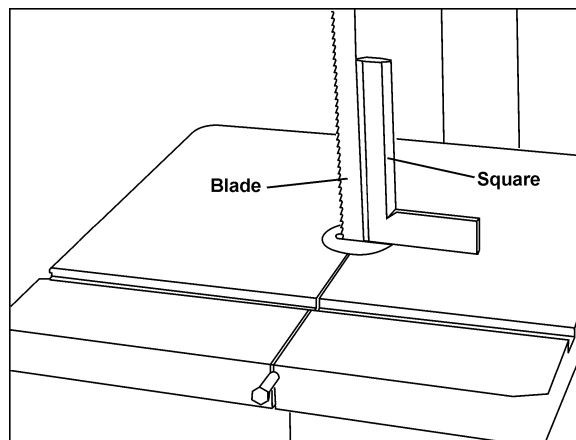
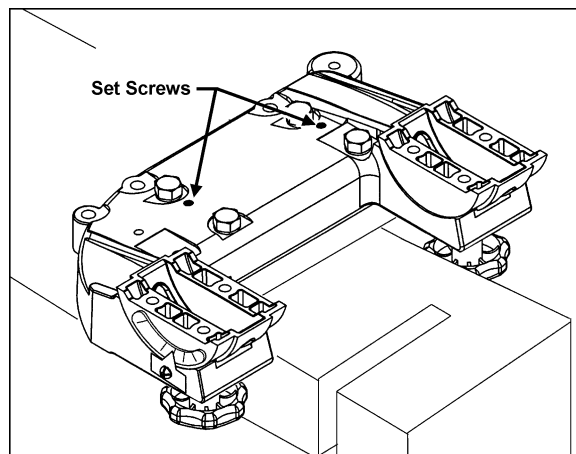

Figure 5
Figure 6
17. Place a square on the table and against the back edge of the blade (Figure 5). If the table is not 90 degrees to the back edge of the blade, use one of the set screws (Figure 6) to adjust the level of the trunnion bracket. Loosen the two hex cap screws nearest the set screw that needs adjusting, and turn the set screw with a hex wrench as needed.